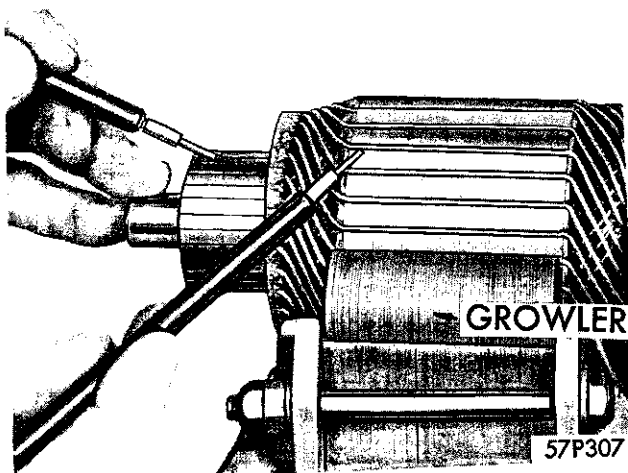

Fig. 9—Testing Armature for Ground
Touch the armature shaft and end of a commutator bar with a pair of test lamp test prods (Fig. 9). If the lamp lights, it indicates a grounded armature. Replace a grounded armature.
(6) Install the armature with the clutch drive, shifter fork, and pinion housing; slide the armature into the field frame until the pinion housing indexes with the slot in the field frame.
(7) Install the solenoid and boot assembly (Fig. 9). Tighten bolts 60 to 70 inch-pounds torque.